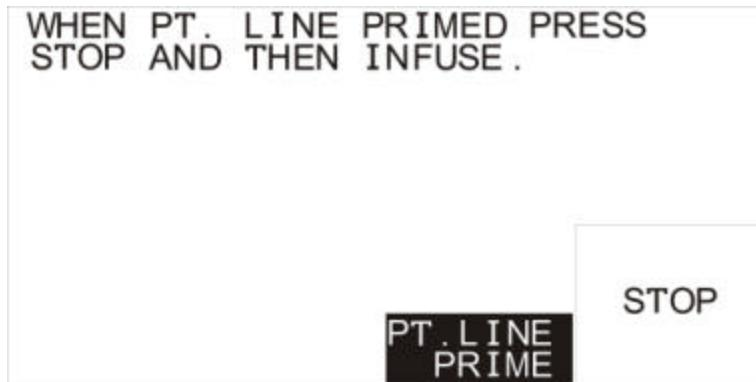

Figure 5. Patient Line Prime
- c. Press STOP or engage the roller clamp first and then press STOP to stop the flow when the patient line is fully primed, Figure 5. Inspect the patient line for air bubbles.